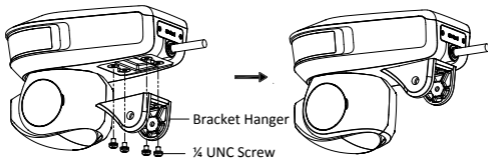

Figure 2-12 Fix the Camera and the Bracket Hanger
1. Align the screw holes on the bottom of the camera with the screw holes on the bracket hanger, and fix the camera and the bracket hanger with four 1/4 UNC screws as shown in Figure 2-12.